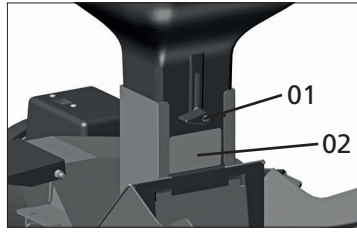

Fig. 12
Loosen the butterfly nut (1), [Fig. 12, page 24], located on the side of the funnel. With the regulator (2), [Fig. 12, page 24] released, adjust it by sliding upwards for a larger opening or downwards for a smaller opening. After adjusting, tighten the butterfly nut (1), [Fig. 12, page 24].